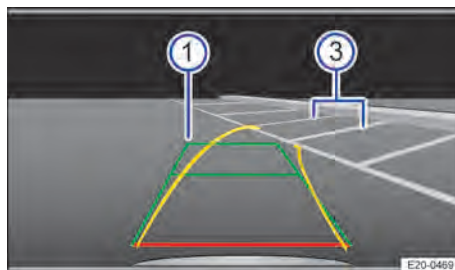

Fig. 131 Infotainment system: driving towards the selected parking space.
5. Steer the vehicle so that the yellow lines lead into the parking space. The green and yellow lines must be aligned with the side limit lines → Fig. 131 ③.